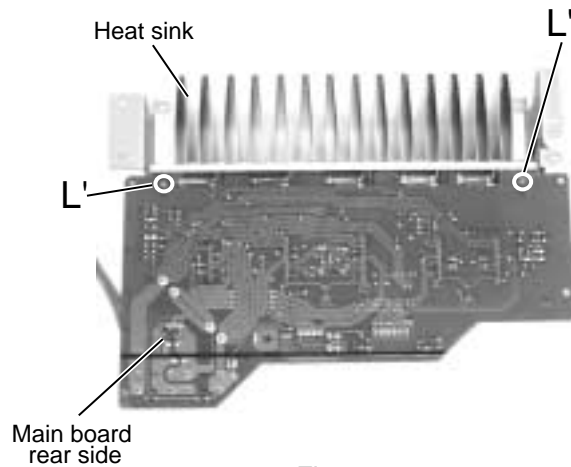

Fig.15
■ **Removing the Heat sink (See Fig.15 and 16)**